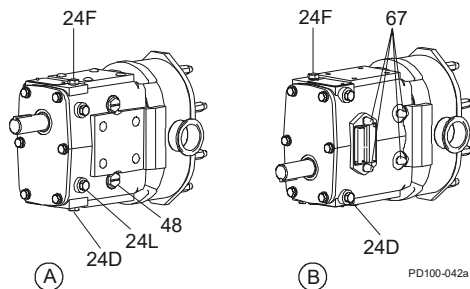

Figure 24 - Lubrication Points
Table 1: Callouts for Figure 24
Excess grease will accumulate in the gear case and must be removed through the cleanout hole covered with a plastic plug (Figure 24, item 48).